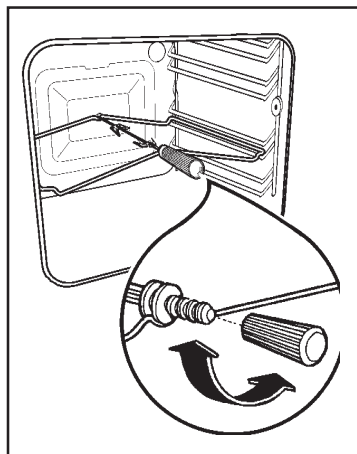

Fig. 5
- Place the spit-support frame into the second runner from the bottom of the oven (Fig. 5).